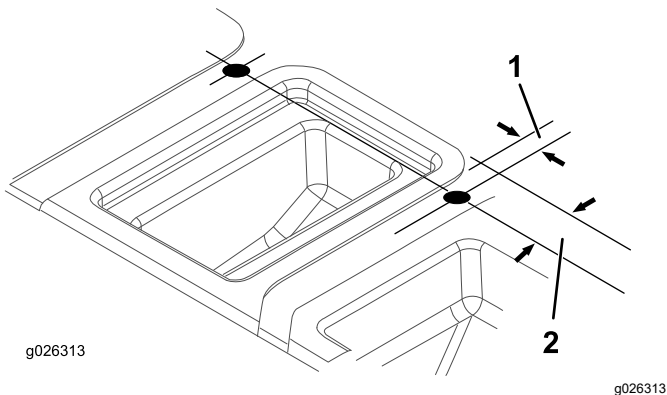

Figure 12
7. Drill a hole in each of the dimples on the top of the seat shroud as shown in Figure 12.